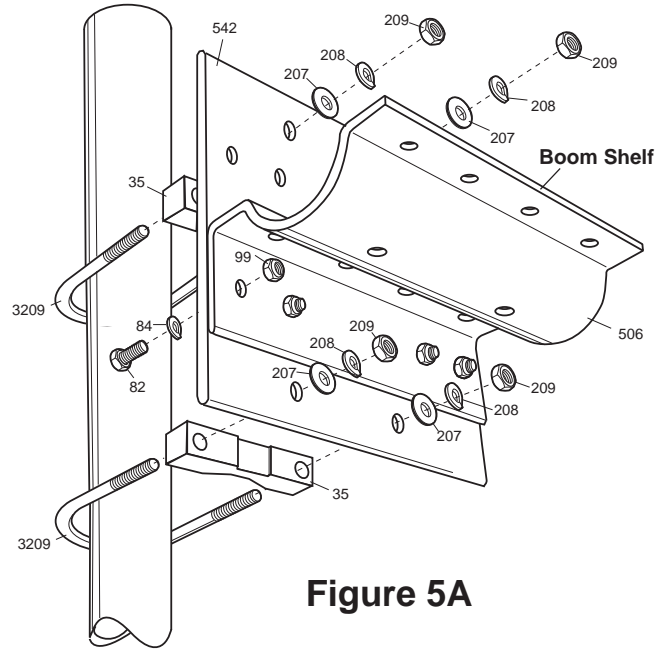

Figure 5A
Form the boom shelf by attaching the lower boom bracket (506) to the mast plate (542) using hardware shown (Figure 5A). Attach mast plate (542) to mast using U-bolts (3209) and V-blocks (35).